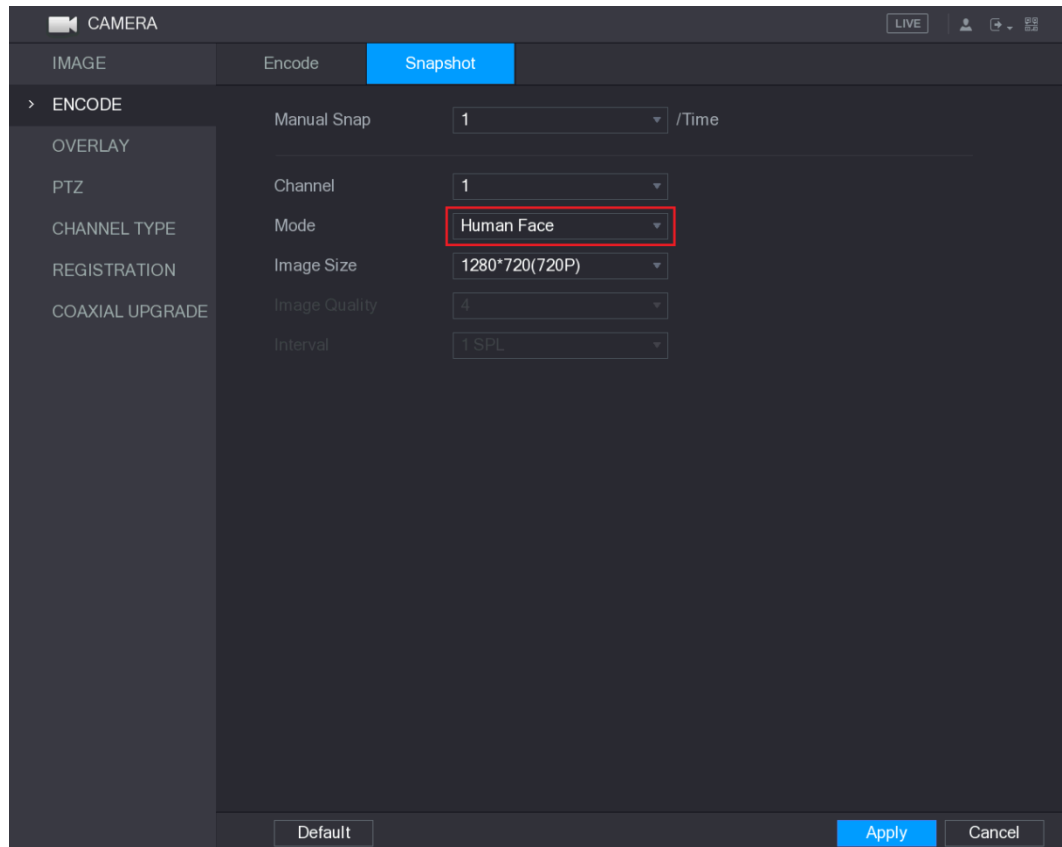

Figure 5-99
Step 2 In the **Mode** list, select **Human Face**, and then configure other parameters. See Figure 5-99.